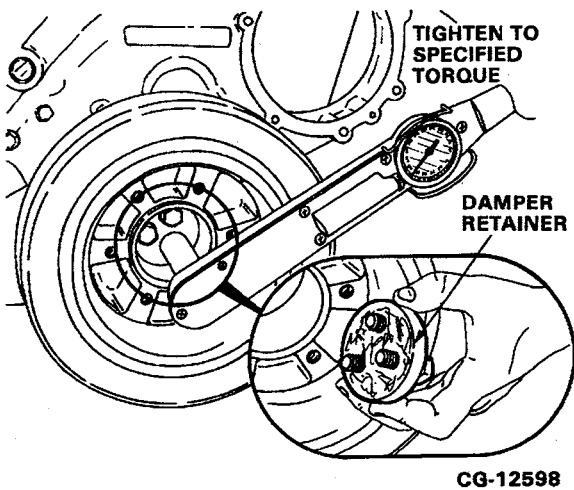

Figure 7.88. Install Vibration Damper
- c. Prevent the crankshaft from turning and tighten the bolts to the specified special torque. Refer to Figure 7.88.